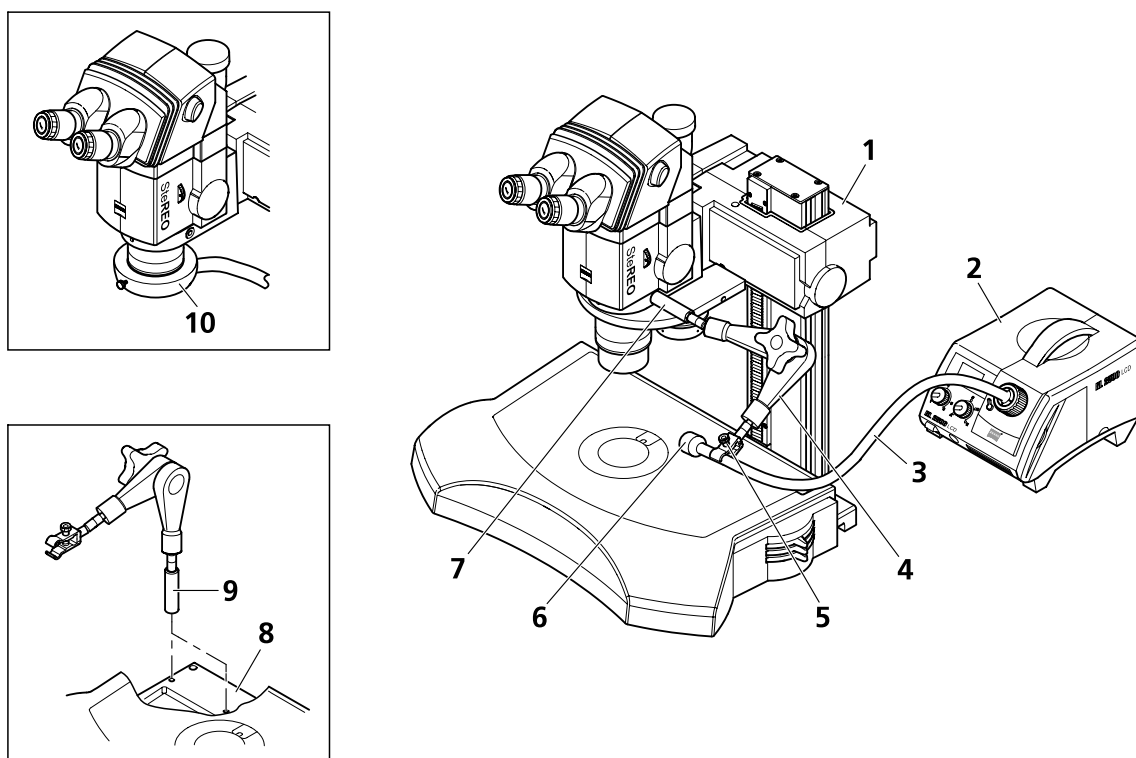

Fig. 19 Installing the incident-light illuminator
- **Flexible light guide with focusing attachment** (Fig. 19/3 and 6):
To be fastened to objective nosepiece, microscope carrier or stand base (Fig. 19/8) by means of the articulated arm and the clamp.
- **Fiber-optical ring illuminators and LED ring illuminators** (Fig. 19/10):
- Screw in the spacing rod (Fig. 19/7), if necessary.
- Hold the articulated arm (Fig. 19/4) in such a way that the label is correctly readable. Then, screw the clamp for the light guide (Fig. 19/5), the line light or the appropriate focusing attachment (Fig. 19/6) onto the upper end of the articulated arm.
- Screw the bottom end of the articulated arm (Fig. 19/4) into the spacing rod or one of the tapped holes on the stand. Tighten the tensioning screw on the articulated arm so that the latter can be used as lever.
- Connect the light guide (Fig. 19/3) to the cold-light source (Fig. 19/2).
-  The articulated arm may also be fixed to the stand base (Fig. 19/8). To this end, screw in the spacer (Fig. 19/9).
- Push the slit-ring illuminator (Fig. 19/10) onto the objective and clamp it by means of the knurled screw.
- Connect the light guide to the cold-light source (Fig. 19/2).